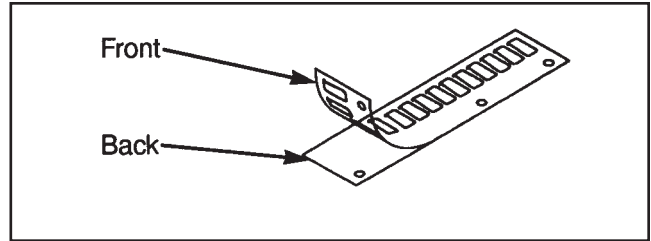

Figure 18
- B.** Place weight plate decals on weight plates according to steps listed below and Figures 18 and 19.